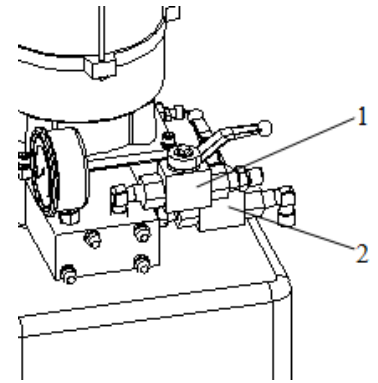

Fig. 7
4. Open valve 1 (fig.7) (parallel with hydraulic line) and close valve 2 (perpendicular to hydraulic line), as shown in fig.7.
10. Close valve 1 (1,fig.7) by turning the valve perpendicular to the hydraulic line and open valve 2 (2,fig.7) by turning it parrallel with the hydraulic line.
14. Now open valve 1 (fig.7) and close valve 2 (fig.7) as shown in fig.7.